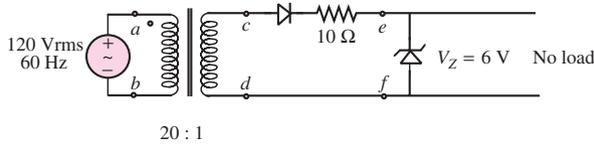

Figure P12.19
12.19 A power supply is shown in Figure P12.19. Sketch the signals  $V_{ab}$ ,  $V_{cd}$ ,  $V_{ef}$ , and  $I_Z$ .